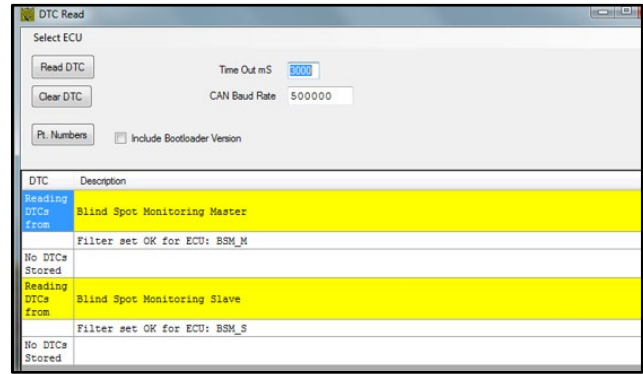

Figure 8
- 12. Check to make sure there are no diagnostic trouble codes (DTCs) stored for the BSM_M and BSM_S modules (refer to Figure 8).